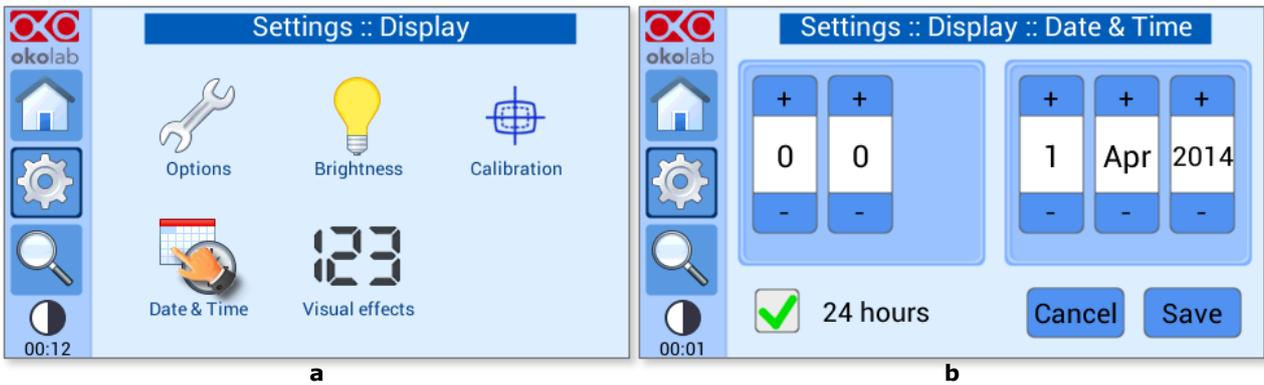

Figure 67. Select Date&Time configuration
- 1 Press the *Date & Time* icon , see Figure 67(a)
- 2 Set the values, as shown in Figure 67(b)